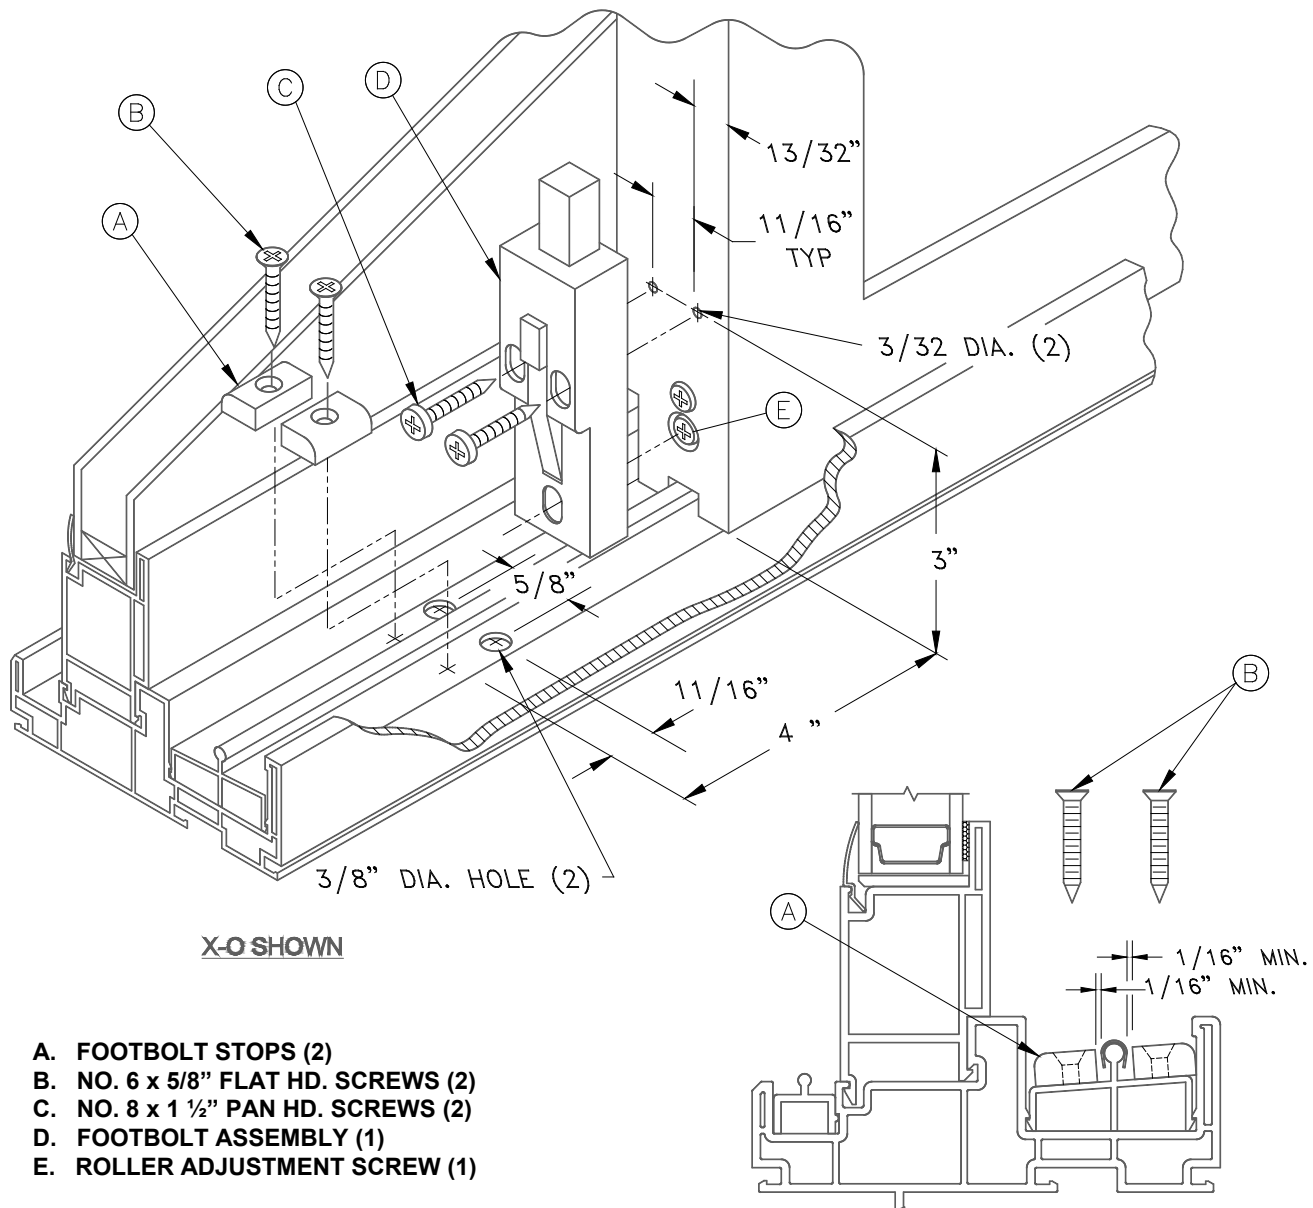

FIGURE 1
2. Install footbolt stops using #6 x 5/8" flat head screws. There must be a minimum 1/16" space between the stops and the roller track. (see figure 1) When installed, the edge of the stops must line up with each other and the edge of the 3/8" clearance holes. **DO NOT OVER TIGHTEN SCREWS!**
3. Measure and drill the 3/32" dia. pilot holes in the active panel and install the footbolt assembly using (2) #8 X 1 1/2" pan head screws. (Make sure you can operate the roller adjustment screw through the access hole in the footbolt assembly.)